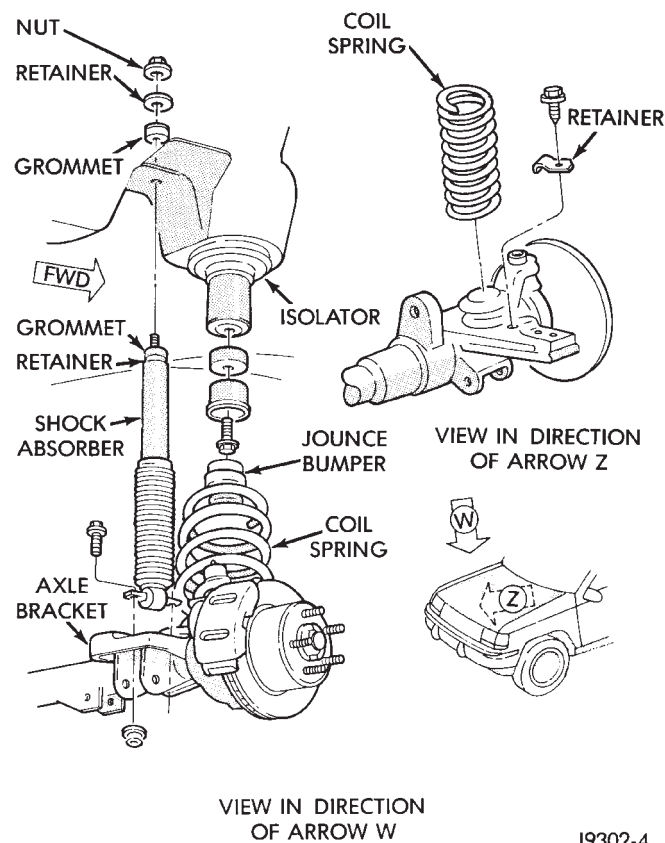

Fig. 7 Coil Spring & Shock Absorber
(1) Remove the nut, retainer and grommet from the upper stud in the engine compartment (Fig. 7).
(2) Remove the lower nuts and bolts from the axle bracket (Fig. 7). Remove the shock absorber.
(5) Disconnect the stabilizer bar link and shock absorber from the axle.
(6) Disconnect the track bar from the frame rail bracket.
(7) Disconnect the drag link from the pitman arm.
(8) Lower the axle until the spring is free from the upper mount. Remove the coil spring clip screw and remove the spring.
(9) Remove the jounce bumper if necessary from the upper spring mount (Fig. 7).
(1) Install the jounce bumper on the upper spring mount. Tighten the screw to 42 N•m (31 ft. lbs.) torque (Fig. 7).
(2) Position the coil spring on the axle pad. Install the spring clip and screw. Tighten the screw to 21 N•m (16 ft. lbs.) torque.
(3) Raise the axle into position until the spring seats in the upper mount.
(4) Connect the stabilizer bar links and shock absorbers to the axle bracket. Connect the track bar to the frame rail bracket.
(5) Install the lower suspension arm to the axle.
(6) Install the front propeller shaft to the axle.
(7) Remove the supports and lower the vehicle.